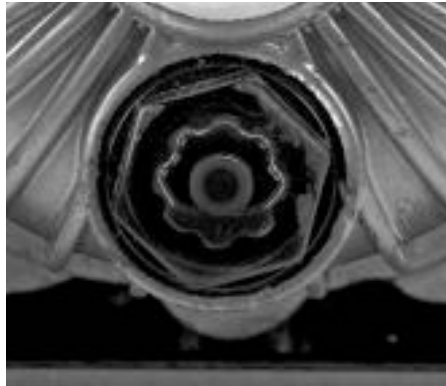

Fig. 2
3. Open supplied oil bottle and pour oil into crankcase until the oil level reaches the center of the red circle in the oil level sight glass (see Fig. 2). **Be careful not to overfill.**